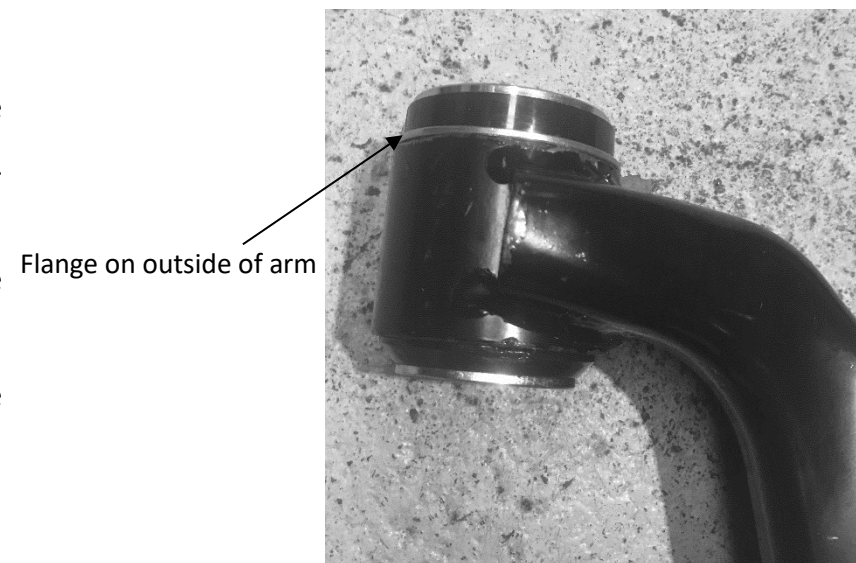

Figure 02 – Completed pressing of one bushing
- Using suitable press tools, press the polyurethane bushings into the housings until the under side of the shell flange contacts the control arm. Refer to Figure 02.